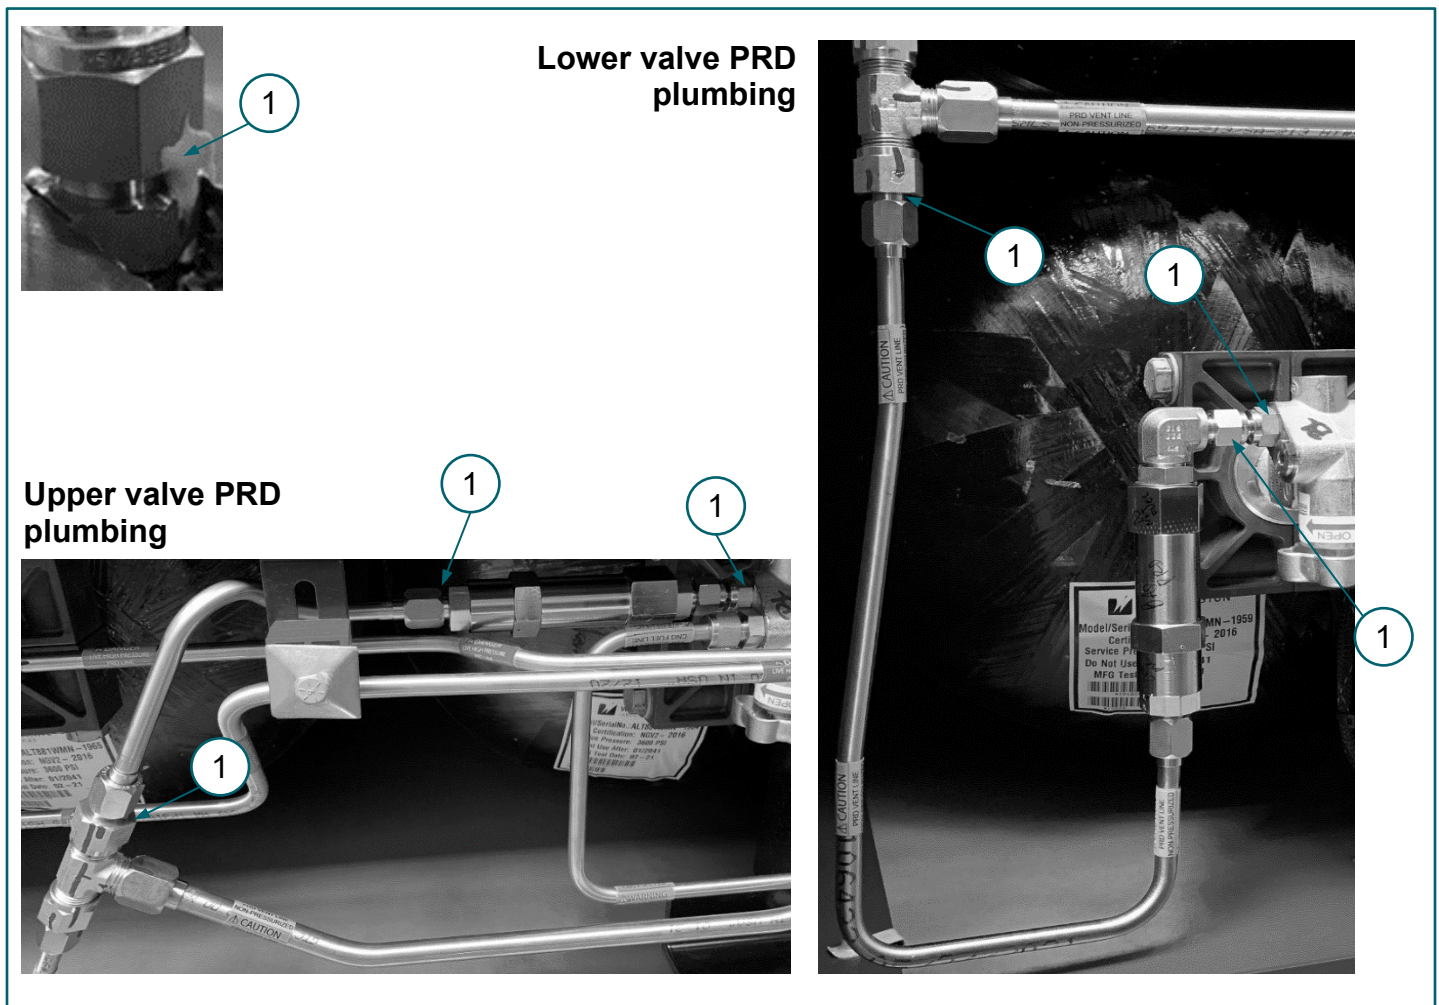

FIGURE 9. New fitting junctions marked with (1) Torque Seal.
8. Use a Torque Seal marker to mark properly tightened fuel system fittings. **FIGURE 9**